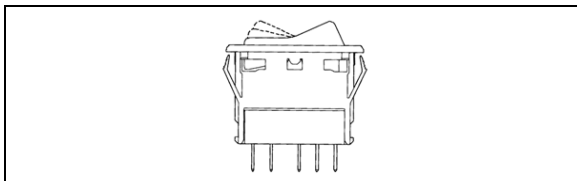

FIGURE 32: SWITCH
3. To install a new switch, reverse the procedure (fig.32).